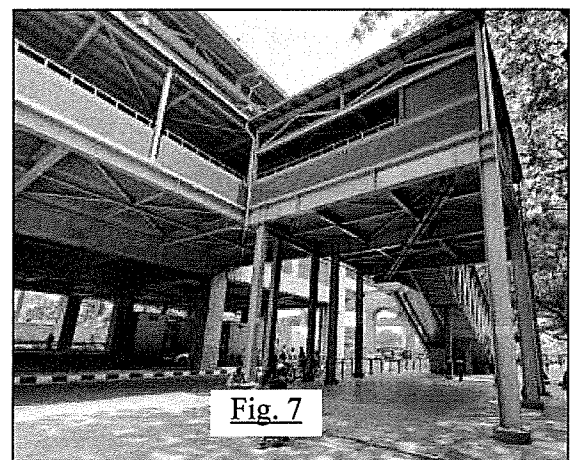

Fig. 7
7. Fig. 7 shows a completed Skywalk Station of MRT-6 with the beam and column sections shown in Question 6. Each floor contains four beams [loaded $w_u = (2 + 0.01R_0)$ k/ft] supported on six columns.